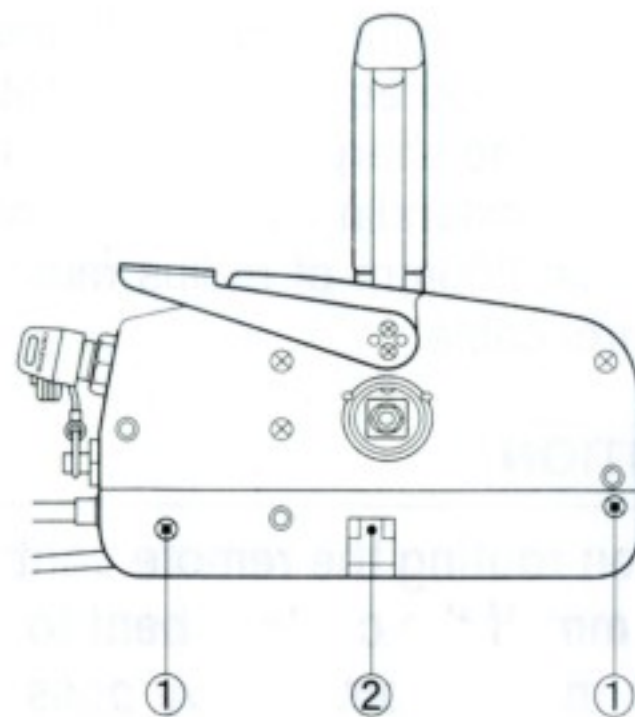

Fig. 12
- 6) Install the back plate ② and tighten it with two screws ①. (See Fig. 12)